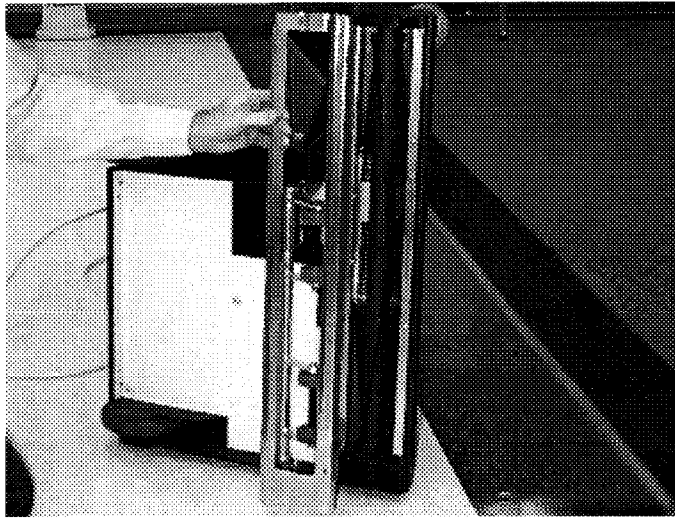

FIG. 12
1. Tip machine on its left side and remove eight screws holding carpet shoe in place. Remove shoe from lower housing. (Figure 12)